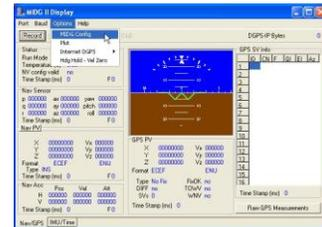

Figure 1. MIDG Display
1. Open an instance of the MIDG Display Utility and select the communications port (Port) which will be used (Figure 1).
2. Select "Options" drop -down menu, then select "MIDG Config." to open the MIDG Config dialog box (Figure 1).